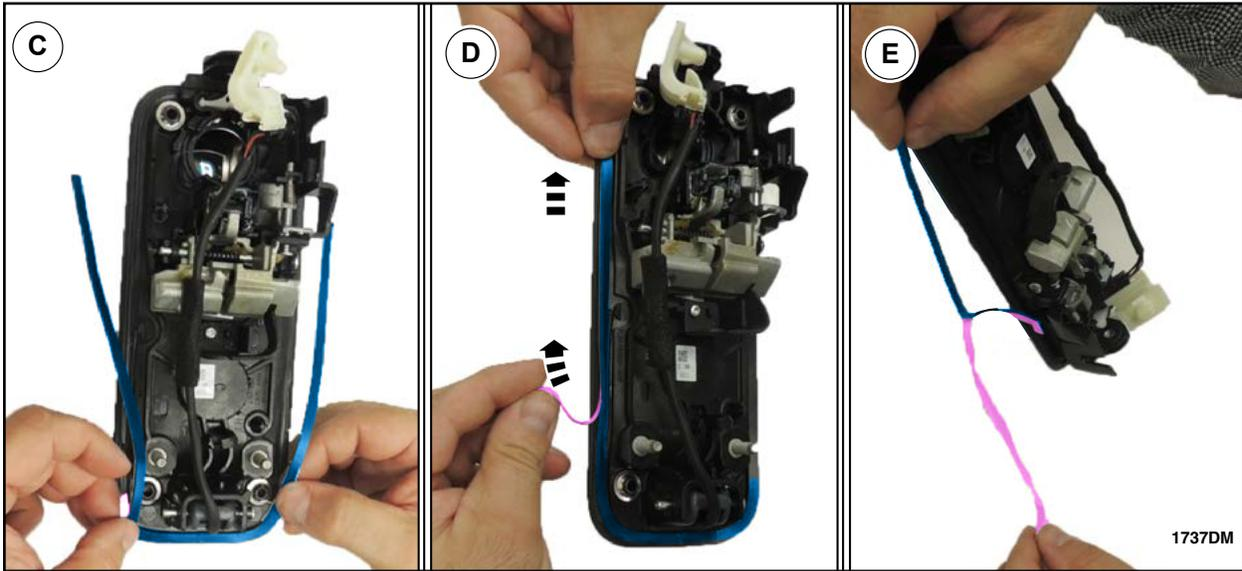

FIGURE 47
- C. Align the marks made on the Foam E and exterior door handle and adhere the back center portion to the exterior door handle as shown in Figure 47.
- D. Lay one side of Foam E down on the exterior door handle and without stretching the foam pull off the adhesive backing as you adhere Foam E to the exterior door handle as shown in Figure 47.
- E. Remove the protective backing from the other side of Foam E as shown in Figure 47.